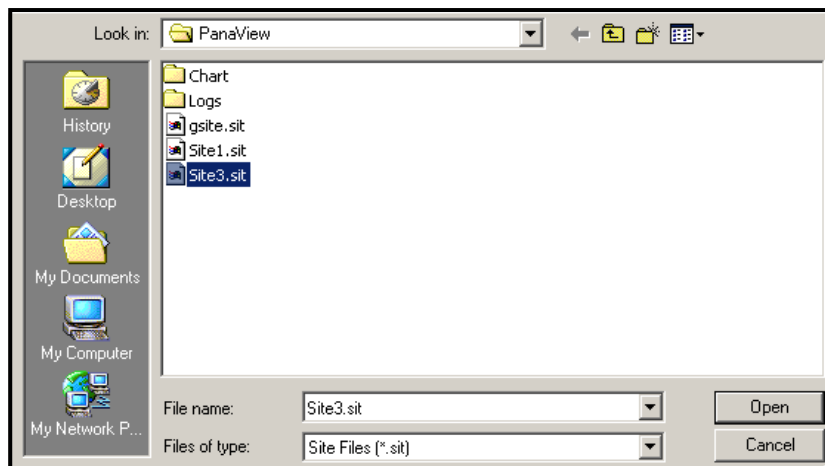

Figure 31: Site File Selection
2. Then click on the *Save Site to Meter* button. A screen opens similar to Figure 31 below.
3. The *Site File Selection* window (*Figure 31 on page 100*) opens. Highlight a site with the desired settings, and click [Open]. PanaView saves the site in the meter with the new name and the desired settings.
3. The *Site File Selection* window (see *Figure 31 on page 100*) opens. Enter the desired site name (now with a .prt suffix) and click [Save]. PanaView displays a text version of the site, as shown in *Figure 33* below.